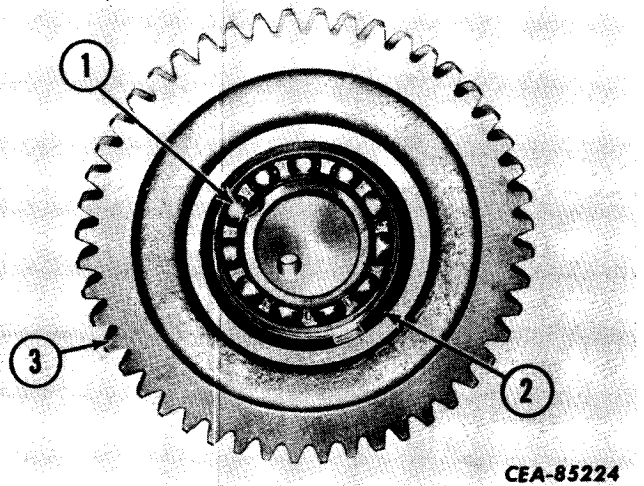

Figure 3-23
Remove the snap ring (2, Fig. 3-23) that holds the bearing assembly (1) in the driven gear (3).